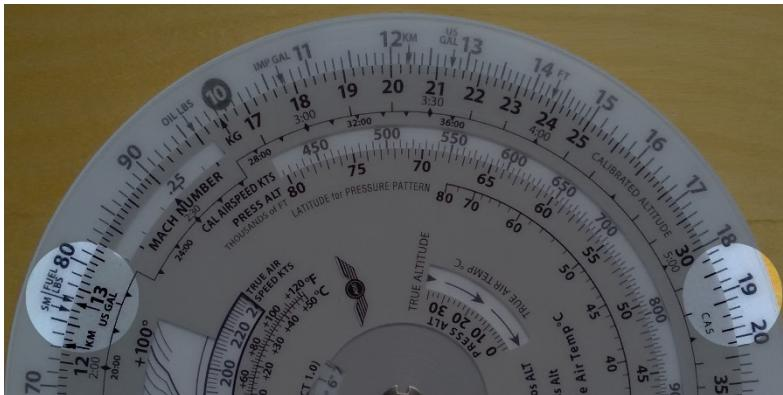

Fig. 7: Place Fuel LBA arrow above US GAL arrow and read the weight of fuel above total gallons.
Aviation gasoline (like AVGAS 100LL) weighs 6 pounds per U.S. gallon (see Figure 7).
2. Find 38 on the middle scale and read 224 pounds on the outer scale. Figure 7. Place Fuel LBS arrow above US GAL arrow and read the weight of fuel above total gallons.